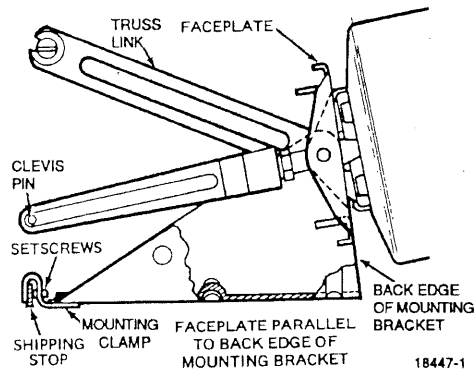

Fig. 9. Internal Mounting Normally Closed Faceplate Positioning.
2. Check faceplate position and adjust if necessary (Fig. 9). The faceplate must be parallel to the back of the mounting bracket.
3. Use 1/8-inch Allen wrench to loosen mounting setscrews on damper mounting clamp (Fig. 9) one turn. Remove and discard shipping stop.